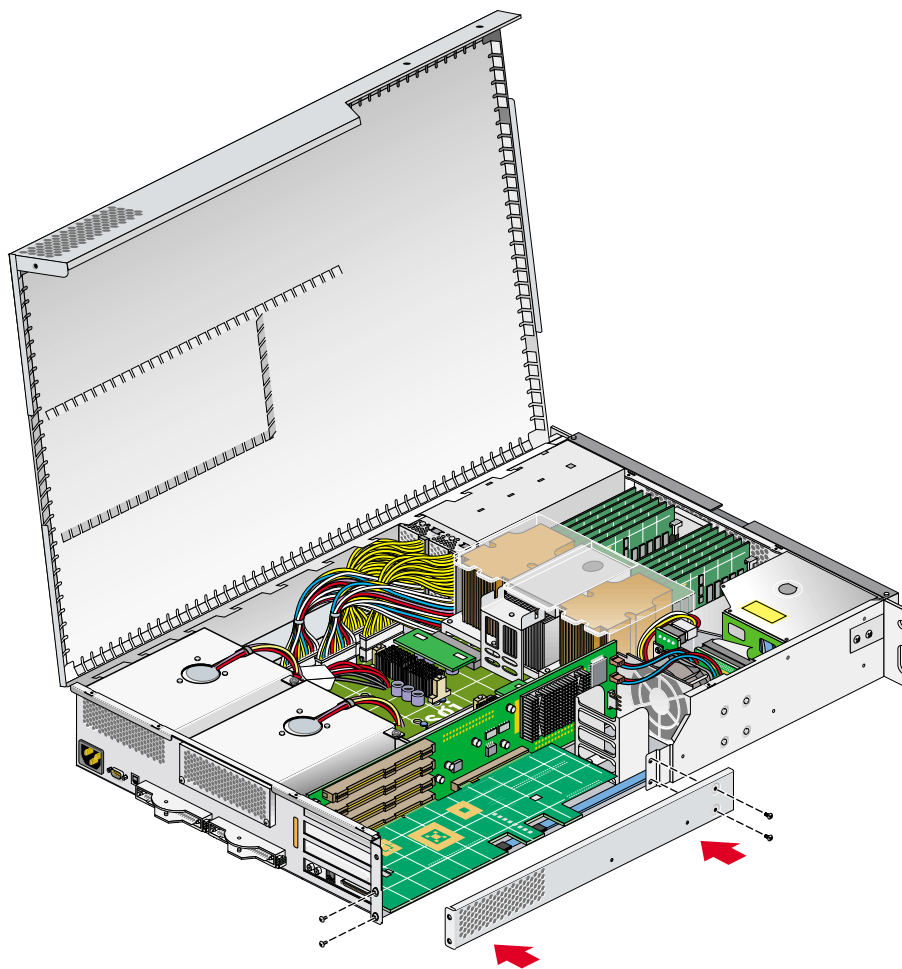

Figure 3-15 Replacing the Lower PCI/PCI-X Support Bracket
14. If you have removed a card from one of the two bottommost card slots, replace the lower PCI/PCI-X support bracket that covers the two bottommost slots, and screw in the four Phillips screws, as shown in Figure 3-15.